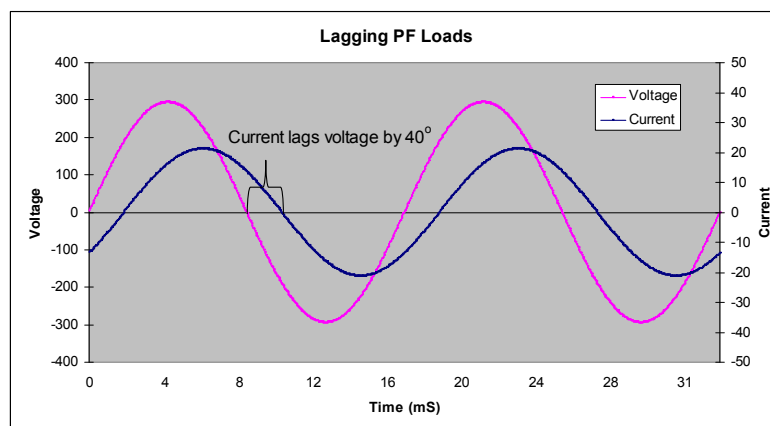

Figure 4. Lagging power factor
- Circuits containing inductive elements (motors, transformers) have what is known as a “lagging” power factor (Figure 4). Because the sine waves are out of sync, there is less real power.